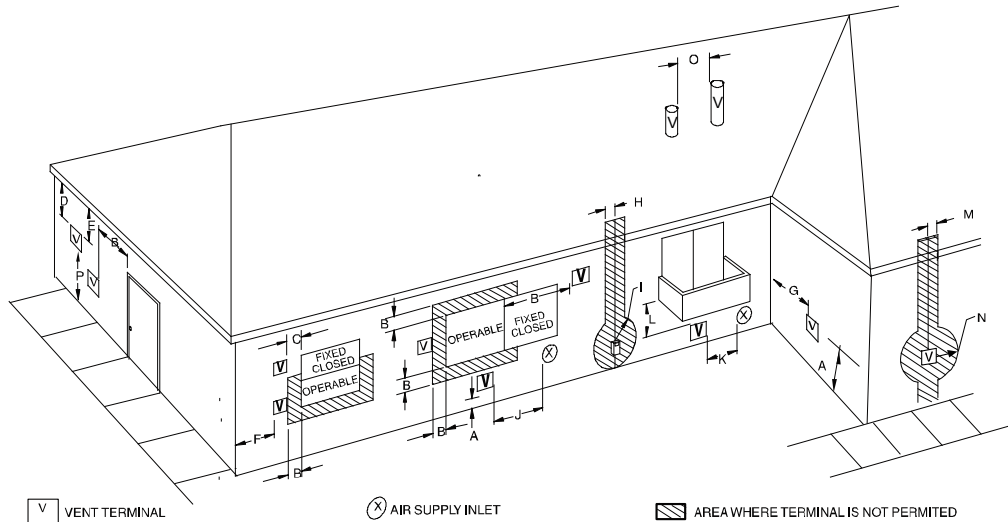
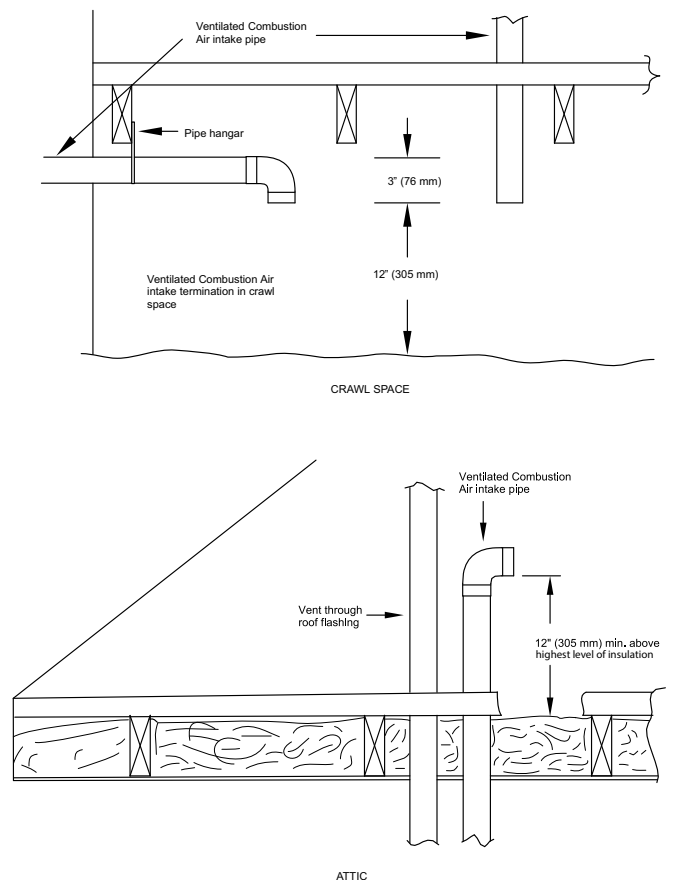

Fig. 43 – Ventilated Combustion Air and Non-Direct Vent Termination Clearance
Fig. 48 – Vent Terminations for Ventilated Combustion Air
In a ventilated combustion air option, the vent terminates and discharges the flue products directly to the outdoors similar to a direct vent system. See Fig. 43 for references to clearances required by National code authorities.
in the Air For Combustion and Ventilation Section. Do not use an abandoned chimney to supply outside air to the furnace. See Fig. 43 for references to vent clearances required by National code authorities.
For vent termination clearance, references to National codes are shown in Fig. 42 for Direct Vent/2-Pipe system and Fig. 43 for Ventilated Combustion Air/Non-direct Vent/1-Pipe system. For exterior termination arrangements, refer to Fig. 40 for Direct Vent/2-Pipe system and Fig. 41 for Ventilated Combustion Air/Non-Direct/1-Pipe system. Contact Local code authorities for other requirements to and/or exemptions from the National codes shown in the figures.
1. Comply with all clearance requirements stated in Fig. 42 or Fig. 43 per application.
The vent pipe for a Ventilated Combustion Air System must terminate outdoors. See Fig. 43 for references to vent clearances required by National code authorities. Allowable vent terminations are shown in Fig. 41. The combustion air pipe terminates in a well-ventilated attic or crawl space. Follow the clearances as shown in Fig. 48.
The vent pipe for a Non Direct Vent (1-pipe) system must terminate outdoors. See Fig. 43 for references to vent clearances required by National Code authorities. Allowable vent terminations are shown in Fig. 41.